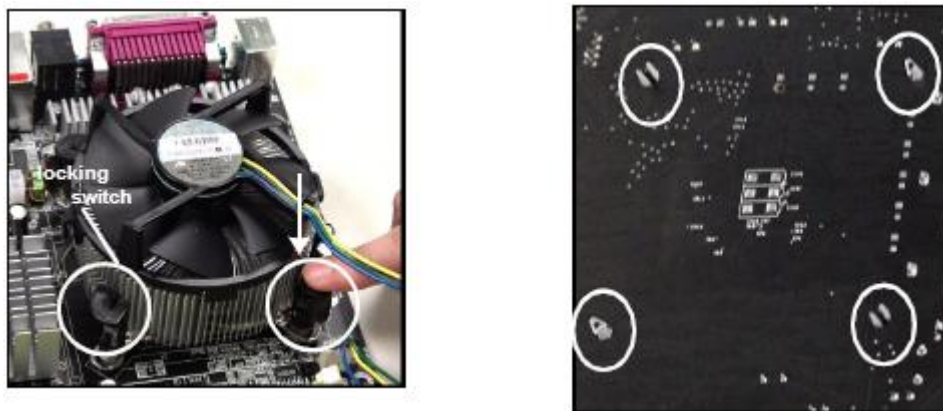

Figure 27: Install heatsink 2
5. Figure 1 shows the battery location. Gently pry the battery free from its socket, taking care to note the "+" and "-" orientation of the battery (Figure 27).